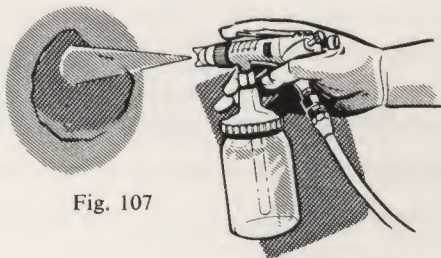

Fig. 107
- (c) Liberally build up the sanded spot with primer-surfacer, making certain that it extends beyond the feathered edges and is applied heavier than the surrounding finish. (Fig. 107)